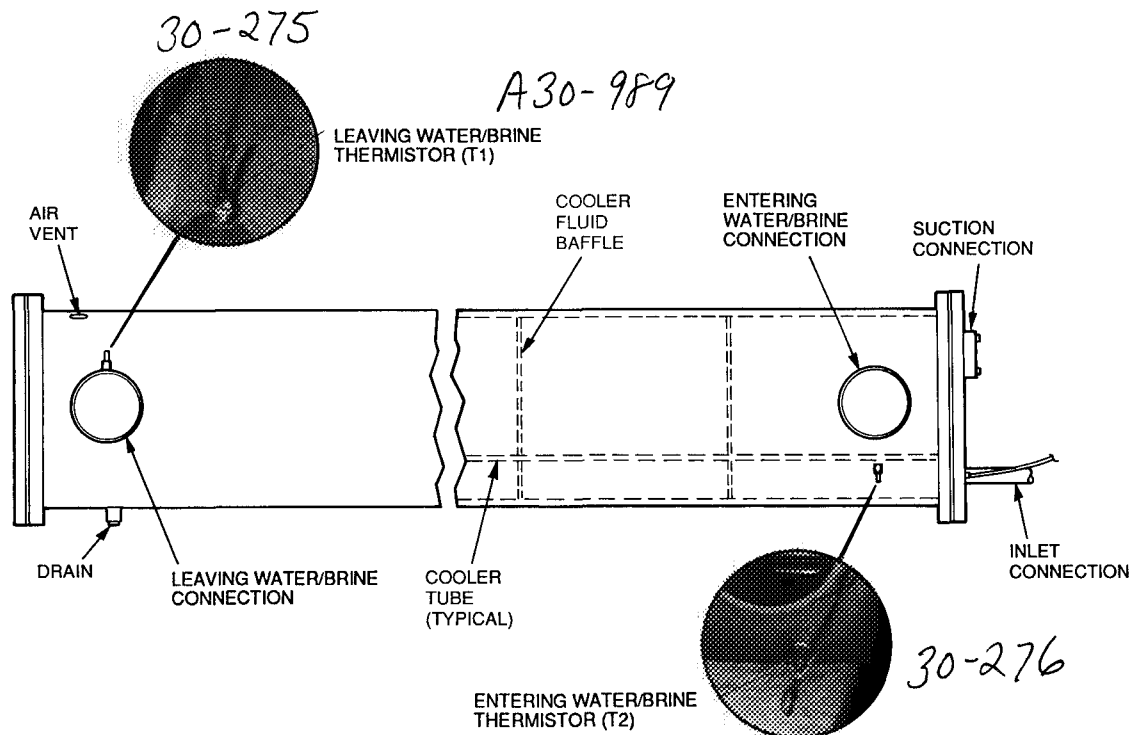

Fig. 12 — Cooler Thermistor Locations
3. Open the air vent at the top of the cooler, and open the drain on the bottom of the cooler near the leaving fluid outlet to drain the cooler. Both the drain and the air vent are located on the leaving fluid end of cooler. See Fig. 12.